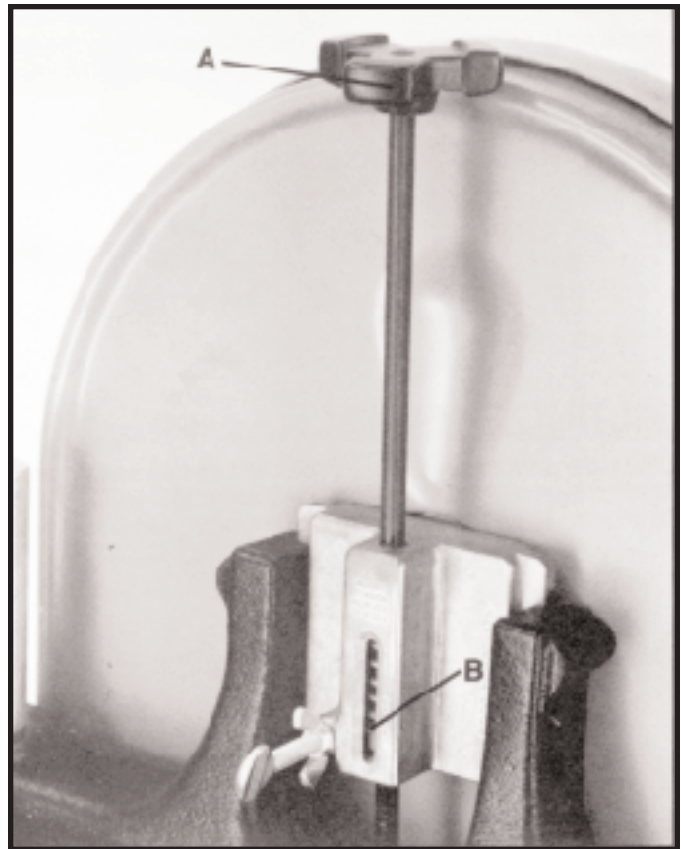

Fig. 40
On the back of the upper wheel slide bracket, there is a series of graduations. These indicate the proper tension for various widths of blades. With the blade on the wheels, turn the knob (A) Fig. 40, to raise or lower the wheel, until the red fiber washer (B) is in line with the proper graduation for the size of blade being used.